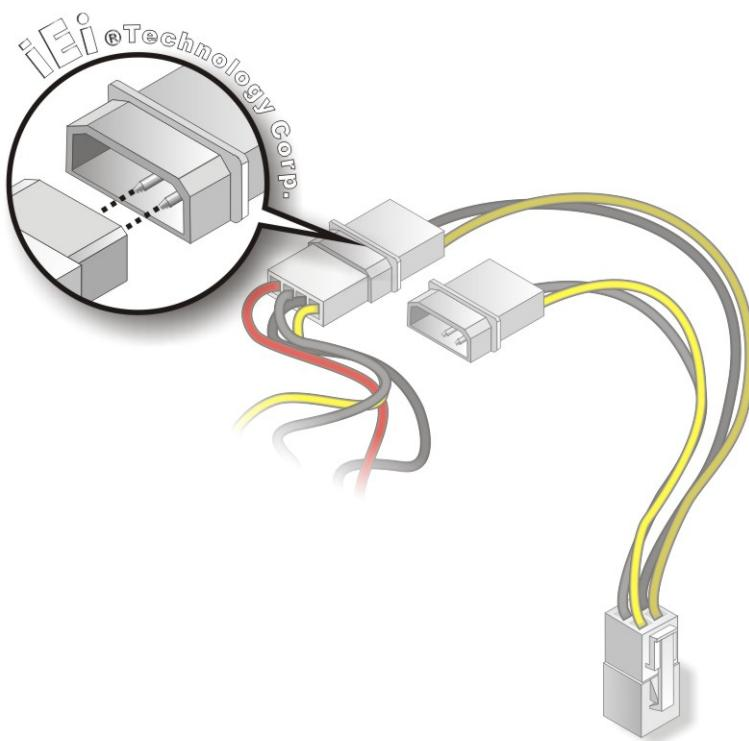

Figure 4-12: Connect Power Cable to Power Supply
**Step 3: Connect Power Cable to Power Supply.** Connect one of the 4-pin (1x4) Molex type power cable connectors to an AT power supply. See Figure 4-12.